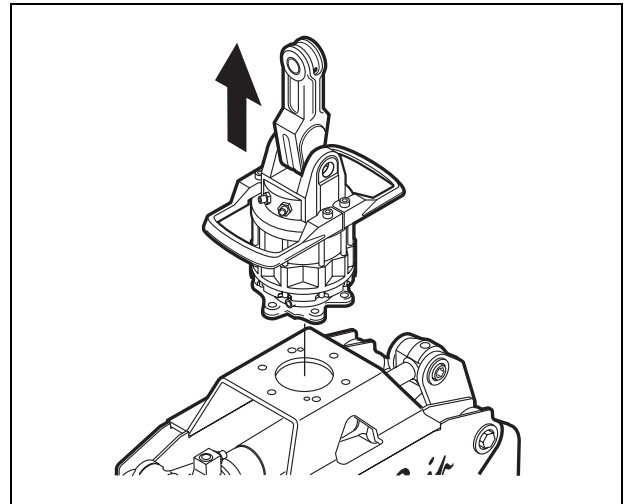

Fig. 20 Remove the rotor
2. Remove the rotor. *See Fig. 20*.